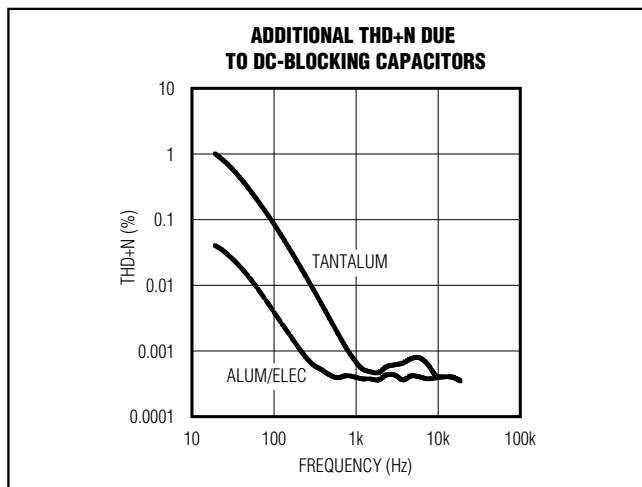

Figure 7. Distortion Contributed by DC-Blocking Capacitors
- 2) The voltage coefficient of the capacitor, the change in capacitance due to a change in the voltage across the capacitor, distorts the audio signal. At frequencies around the -3dB point, the reactance of the capacitor dominates, and the voltage coefficient appears as frequency-dependent distortion. Figure 7 shows the THD+N introduced by two different capacitor dielectrics. Note that around the -3dB point, THD+N increases dramatically.